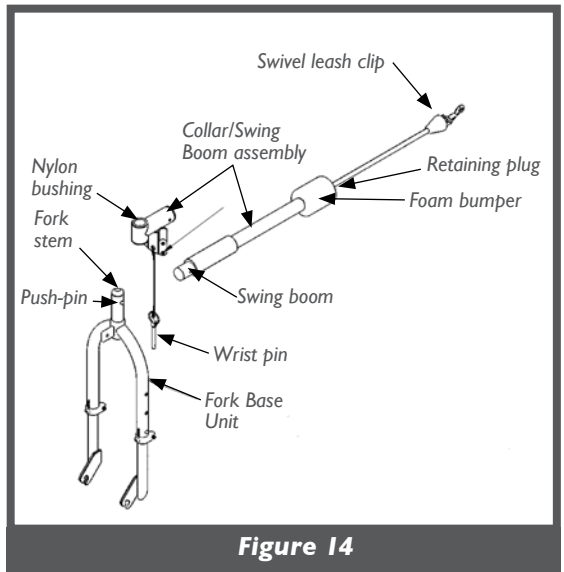

Figure 14
1. COMPONENTS (FIG. 14)
INSTALLATION After installing the Fork Base Unit on your bicycle, connect the Dog Jogger collar/swing boom assembly onto the fork stem, so the push-pin “clicks” above the nylon bushing (FIG. 14). The swing boom should point to the rear of the bicycle.